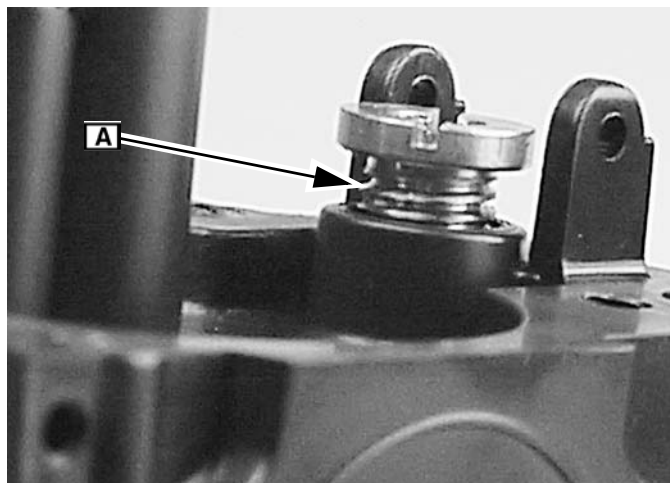

Fig. 49
- Apply one drop of **Loctite 242™** or equivalent to the seat threads **A**, and install a new brass inlet seat (Figure 49). Torque to **25 lb-in.**